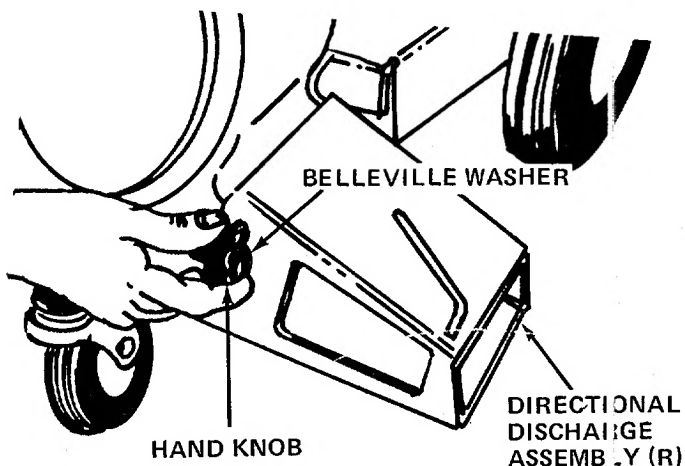

FIGURE 14
7. Place the directional discharge assembly (R) over chute opening. Secure with two hand knobs and belleville washers. See figure 14.